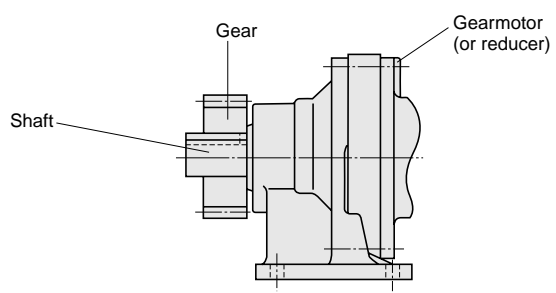
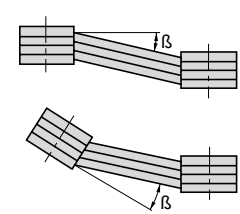

Fig. 7
Fig. 8
(2) When Using a Chain Sprocket and Gear
- Install sprocket and gears so that their point of load application will be closer to the gearmotor or reducer side with respect to the length of the shaft. (Fig.7)
(3) When Using a V-belt
- The parallelism and eccentricity (β) between two pulleys should be within 20'. (Fig.8)